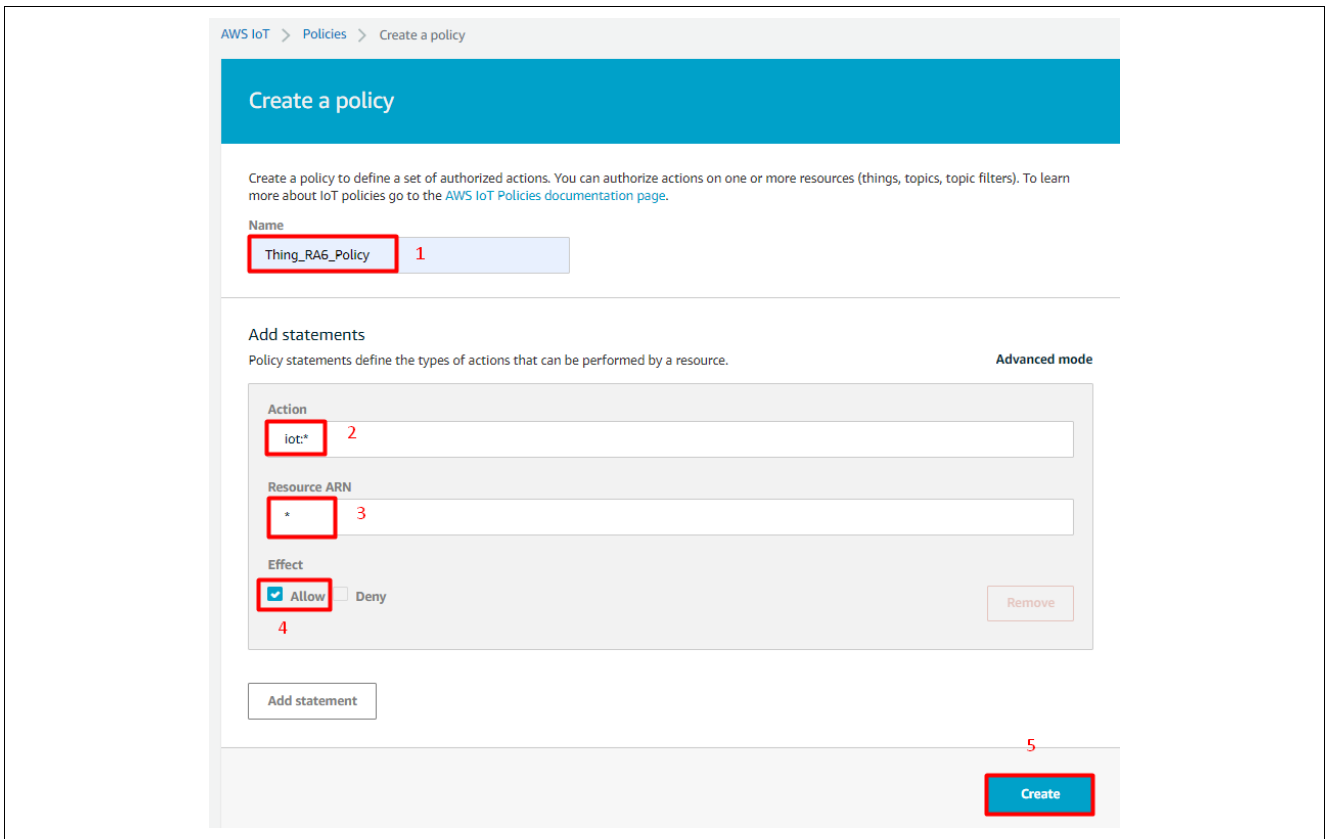

Figure 20. Create a New Policy
6. Set **Effect** to **Allow** as shown in Figure 20 and click on **Create**.